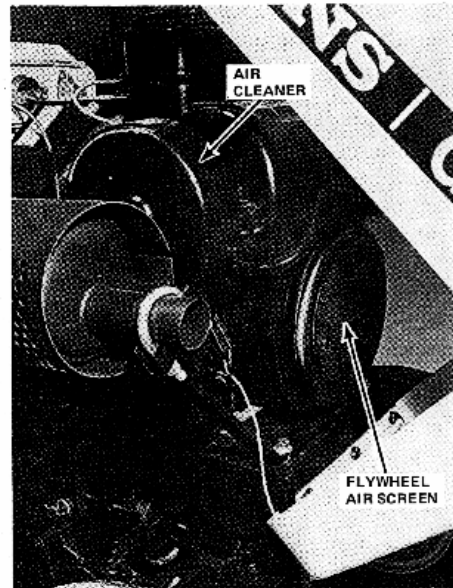

FIGURE 5
4. Check to see that air cleaner element is free of debris. Clean regularly. Refer to Figure 5 and Preventive Maintenance, page 9.
5. Check flywheel screen for debris, and clean regularly. Refer to Figure 5.